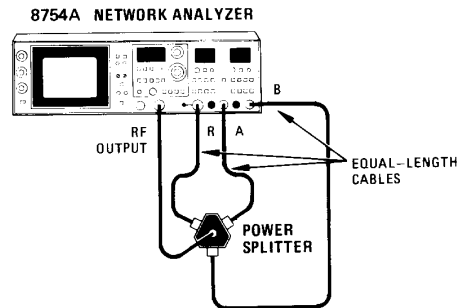

Figure 4-18. Magnitude Display Accuracy Test Setup
1. Connect equipment as shown in Figure 4-18.